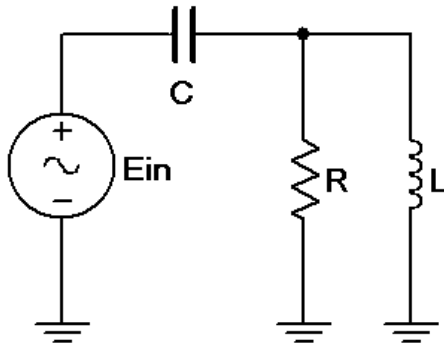

Figure 8.1
1. Using Figure 8.1 with a 10 kHz sine wave at 10 V p-p source,  $R=1\text{ k}\Omega$ ,  $L=10\text{ mH}$ , and  $C=10\text{ nF}$ , determine the theoretical inductive and capacitive reactances, parallel branch reactance and total circuit impedance, and record the results in Table 8.1 (the experimental portion of this table will be filled out in step 5). Using Ohm's Law and the voltage divider rule compute the capacitor and inductor-resistor voltages along with the input current and record them in Table 8.2.
2. Build the circuit of Figure 8.1 using  $R=1\text{ k}\Omega$ ,  $L=10\text{ mH}$ , and  $C=10\text{ nF}$ . Set the generator to a 10 kHz sine wave and 10 V p-p. Make sure that the *Bandwidth Limit* of the oscilloscope is engaged for both channels. This will reduce the signal noise and make for more accurate readings.
15. Build the circuit of Figure 8.1 in a simulator. Using Transient Analysis, determine the voltage across the inductor and compare the magnitude and phase to the theoretical and measured values recorded in Table 8.2.
3. In general, how would the phasor diagram of Figure 8.1 change if the frequency was raised?